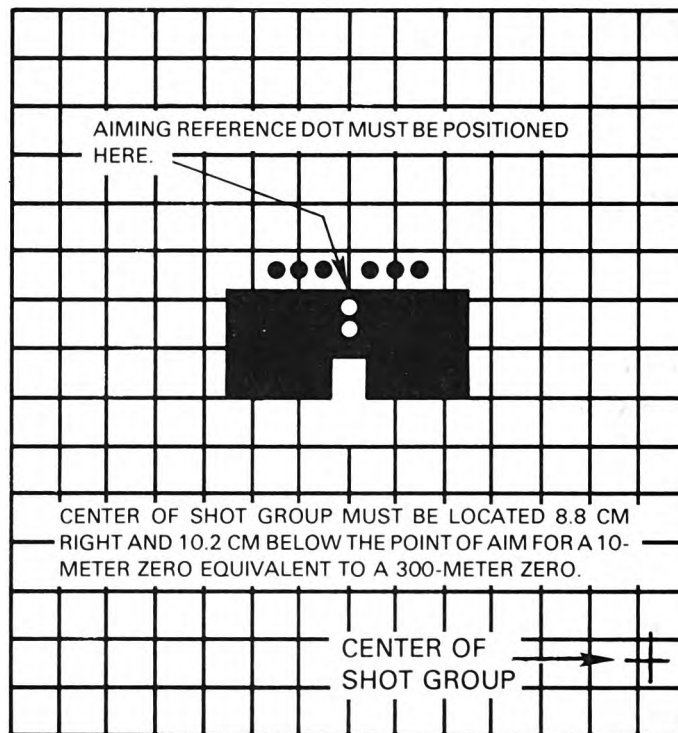
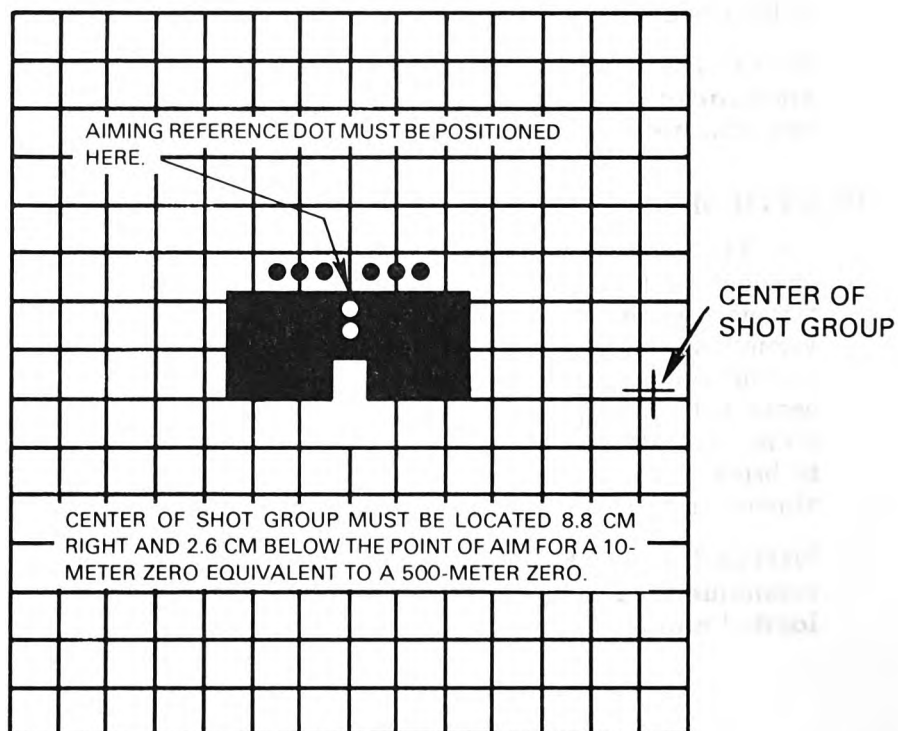

Figure 1. 300-meter zero.
Figure 2. 500-meter zero.
1. **The Basic (10-meter) Zero.** The 300-meter zero (figure 1) is used to engage targets out to 500 meters, and the 500-meter zero (figure 2) is used for targets beyond 500 meters. Sight through the scope and position the top vertical aiming reference dot of the sight reticle on the target. Fire three rounds (single shot) to establish a shot group. Check target to determine the center of the shot group in relation to where the round must strike the target for an accurate zero. Adjust the elevation and/or azimuth knob of the scope to bring the point of aim and the center of the shot group into proper alignment. Continue this procedure until zeroed.